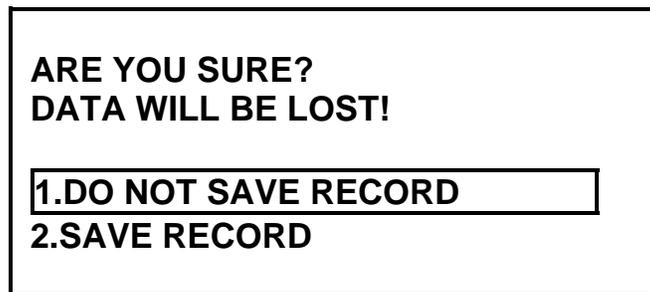

Figure 35.0 Test Record Not Saved Menu
- c. **Action Options:** Press key number 1 (“YES”) or push down the Control Knob to save the current test results to a test record. Press key number 2 to disregard the current test results and advance to the “Test Record Not Saved Menu” (Figure 35.0 Test Record Not Saved Menu). Selection of number 2 may be made by turning the Control Knob. Push down the Control Knob after number 2 is selected.